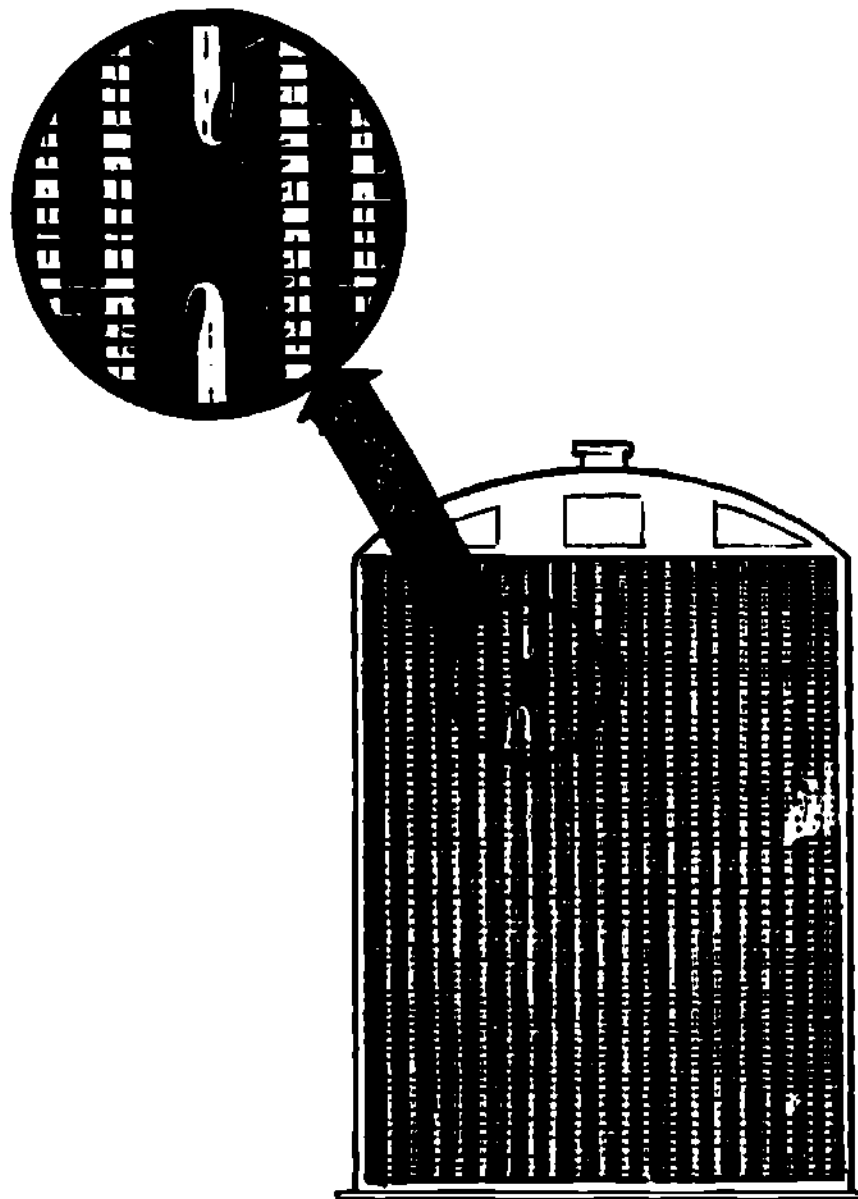

Fig 3-7. Repair of punctured radiator core.
c. Punctured core. If a tube in the core is punctured, cut through the fins to reach the damaged tube. After cutting the tube at the leaking spot, mash (crimp) the two ends with a pair of pliers; then double the ends back against the tube as shown in figure 3-7. This expedient may hold for a long time; however, if several tubes are repaired this way, the efficiency of the radiator is reduced and the engine may overheat.